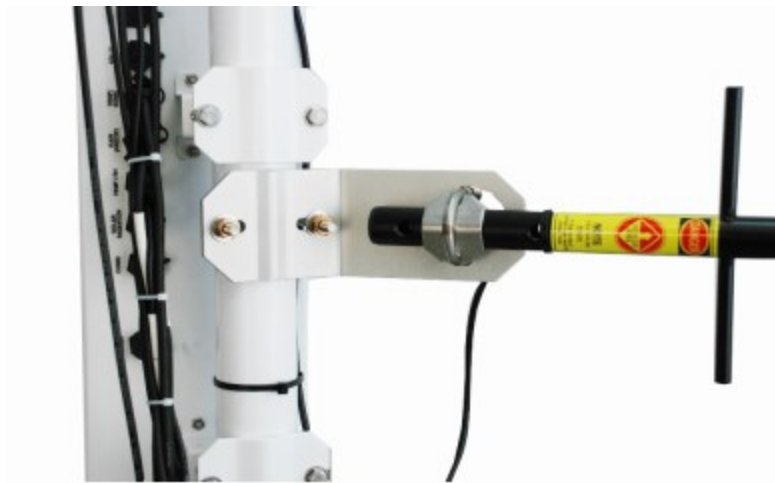

FIGURE 6-33. Yagi antenna mounted to saddle bracket
- b. If the Yagi antenna at the station is communicating with an omnidirectional antenna at the base, align the tines on the Yagi antenna so they are vertical (FIGURE 6-33 (p. 48)). If two Yagi antennas are used at both ends of communications, align the tines the same. If interference is a concern, align the tines on the two Yagi antennas horizontally instead of vertically. This will put the signal out of phase with other antennas that are aligned vertically.